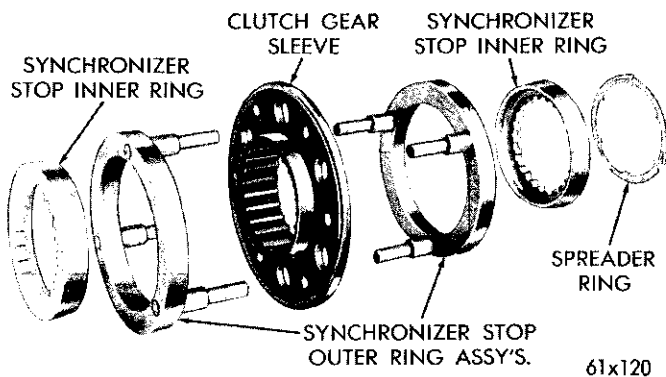
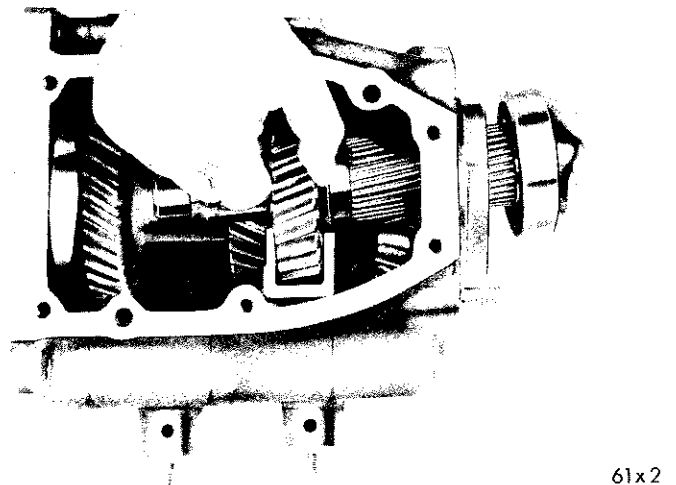

Fig. 4—Synchronizer Assembly
Fig. 5—Removing or Installing Mainshaft Assembly
- (1) Remove the mainshaft rear bearing snap ring from the groove in the mainshaft rear bearing bore in the case.
- (2) Slide the mainshaft and rear bearing assembly to the rear, until the rear bearing is out of the case.
- (3) Remove the synchronizer assembly (Fig. 4) from the mainshaft and out of the case.
- (4) Remove the second and third speed shift fork.
- (5) Remove the synchronizer clutch gear snap ring using Tool C-484.
- (6) Remove the synchronizer clutch gear, second speed gear and first and reverse sliding gear from the mainshaft.
- (7) Remove the mainshaft and bearing out through the rear of the case (Fig. 5).
- (8) Remove the synchronizer clutch gear, second speed gear, low and reverse sliding gear, low and reverse shift fork from the case.